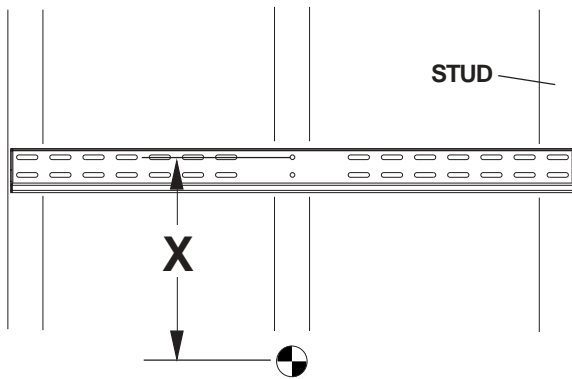
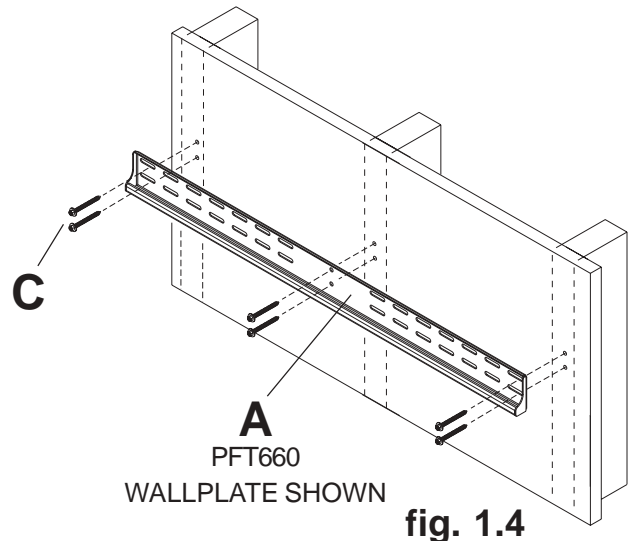

fig. 1.3
fig. 1.4
**1** Wall plate (A) can be mounted to three studs that are 16" apart. Use a stud finder to locate the edges of the studs. Use of an edge-to-edge stud finder is highly recommended. Based on their edges, draw a vertical line down each stud's center. Place wall plate on wall as a template. The top mounting slots should be located above the desired screen center as shown in figure 1.3. **Note:** Screen tilt will determine wall plate location. Level plate, and mark the center of the six mounting holes. Make sure that the mounting holes are on the stud centerlines. Drill six 5/32" (4 mm) dia. holes 2-1/2" (65 mm) deep. Make sure that the wall plate is level, secure it using six #14 x 2.5" wood screws (C) as shown in figure 1.4.
**1** Make sure that wall plate (A) is level, use it as a template to mark two mounting holes. The top mounting hole should be above the desired screen center as shown in figure 1.1 on page 4 or figure 1.3 on page 5. **Note:** Screen tilt will determine wall plate location. Drill two 1/4" (6 mm) dia. holes to a minimum depth of 2.5" (64 mm). Insert anchors (D) in holes flush with wall as shown (right). Place wall plate over anchors and secure with #14 x 2.5" screws (C). Level, then tighten all fasteners.